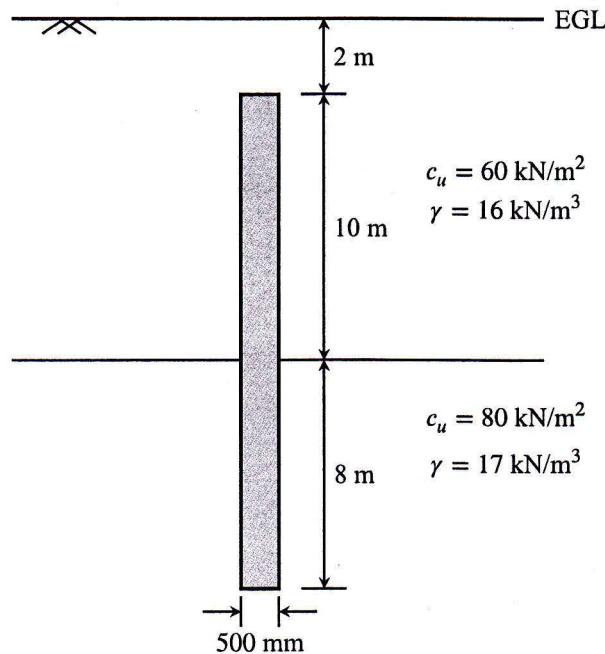

Figure 1
- (c) An individual cast in situ concrete pile in soft saturated clay having a diameter (D) of 500 mm is shown in the following figure (Fig. 1). Calculate the ultimate frictional resistance (Q_s) of the pile by the α method. The groundwater table is located at a greater depth and has no influence on the bearing capacity. (8)